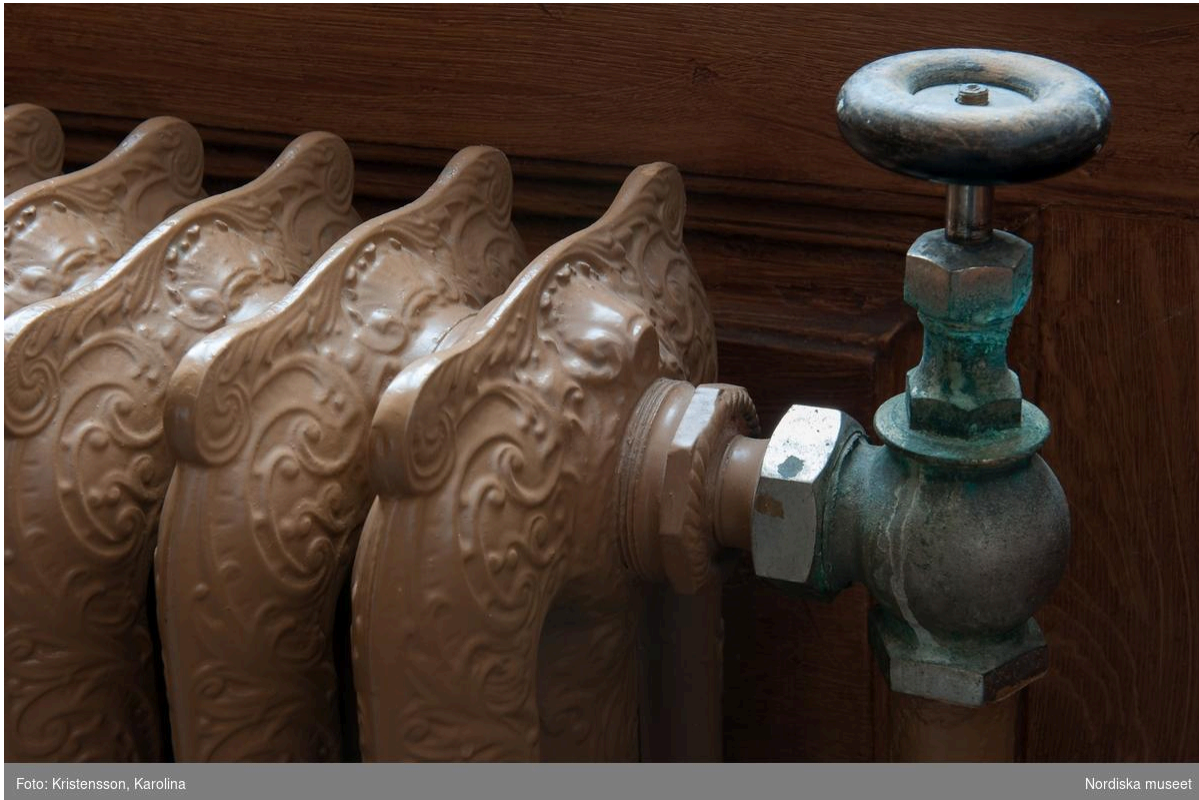

Figure 11 Freestanding cast iron radiator. (Karolina Kristensson/DigitaltMuseum) CC BY-NC-ND 4.0 (<https://creativecommons.org/licenses/by-nc-nd/4.0/deed.en>)
A freestanding cast-iron radiator (Figure 11) emits about 60% of its heat by radiation and the remaining 40% by convection currents. Other types of radiators may heat more by convection than by radiation. Depending on the location, colour, texture, and temperature of a radiator, the transfer of heat from it may be almost entirely by convection, with only a small amount by radiation.
- **Figure 11** Tyresö slott, interiör, detaljer (<https://digitaltmuseum.se/021016859452/tyreso-slott-interior-detaljer>) by Karolina Kristensson, via DigitaltMuseum, is used under a CC BY-NC-ND 4.0 (<https://creativecommons.org/licenses/by-nc-nd/4.0/deed.en>) license.